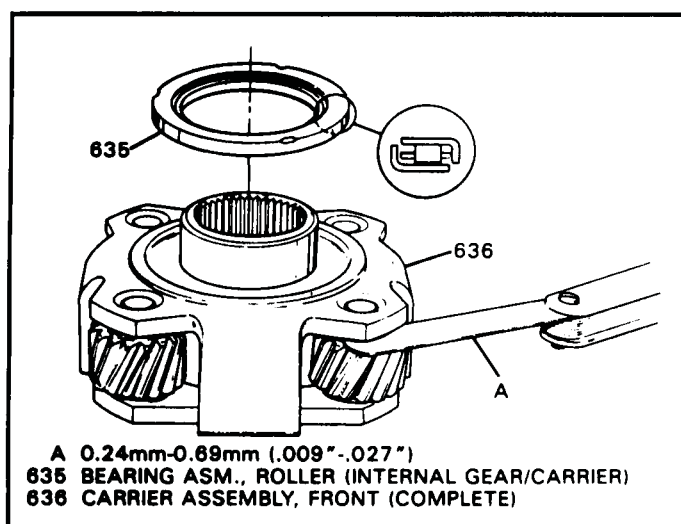

Figure 80
46. Measure the front carrier pinion end play with a feeler gage as shown in Figure 80. Pinion end play should be .009" to .027".
48. Install thrust bearing (635) on the front carrier in direction shown in Figure 80.